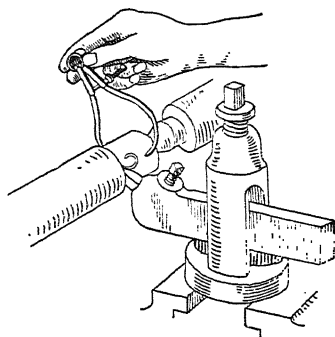

FIG. 59.
**76. Measuring with a Caliper** (Fig. 59).—Accuracy in caliper measurement depends on the sense of touch and to get a delicate touch of the caliper on the work it should be held lightly and not with a “grab grip.” It is not difficult to demonstrate the “feel” of  $\frac{1}{1000}$  in. with a caliper. A lathe